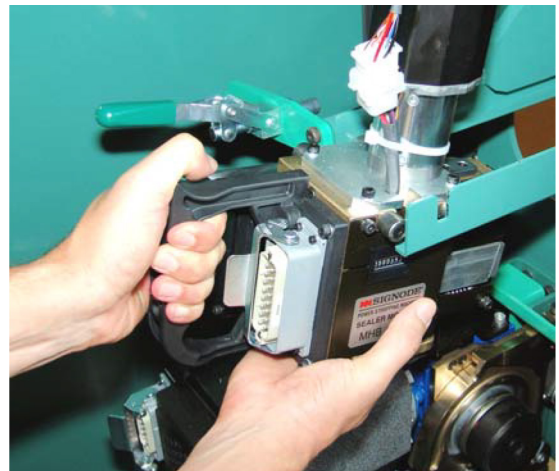

Figure 4-12: Sealer Module
3. Using both hands, slide the sealer module out from the guide brackets of the machine frame (**Figure 4-12**). Remove the module from the machine.